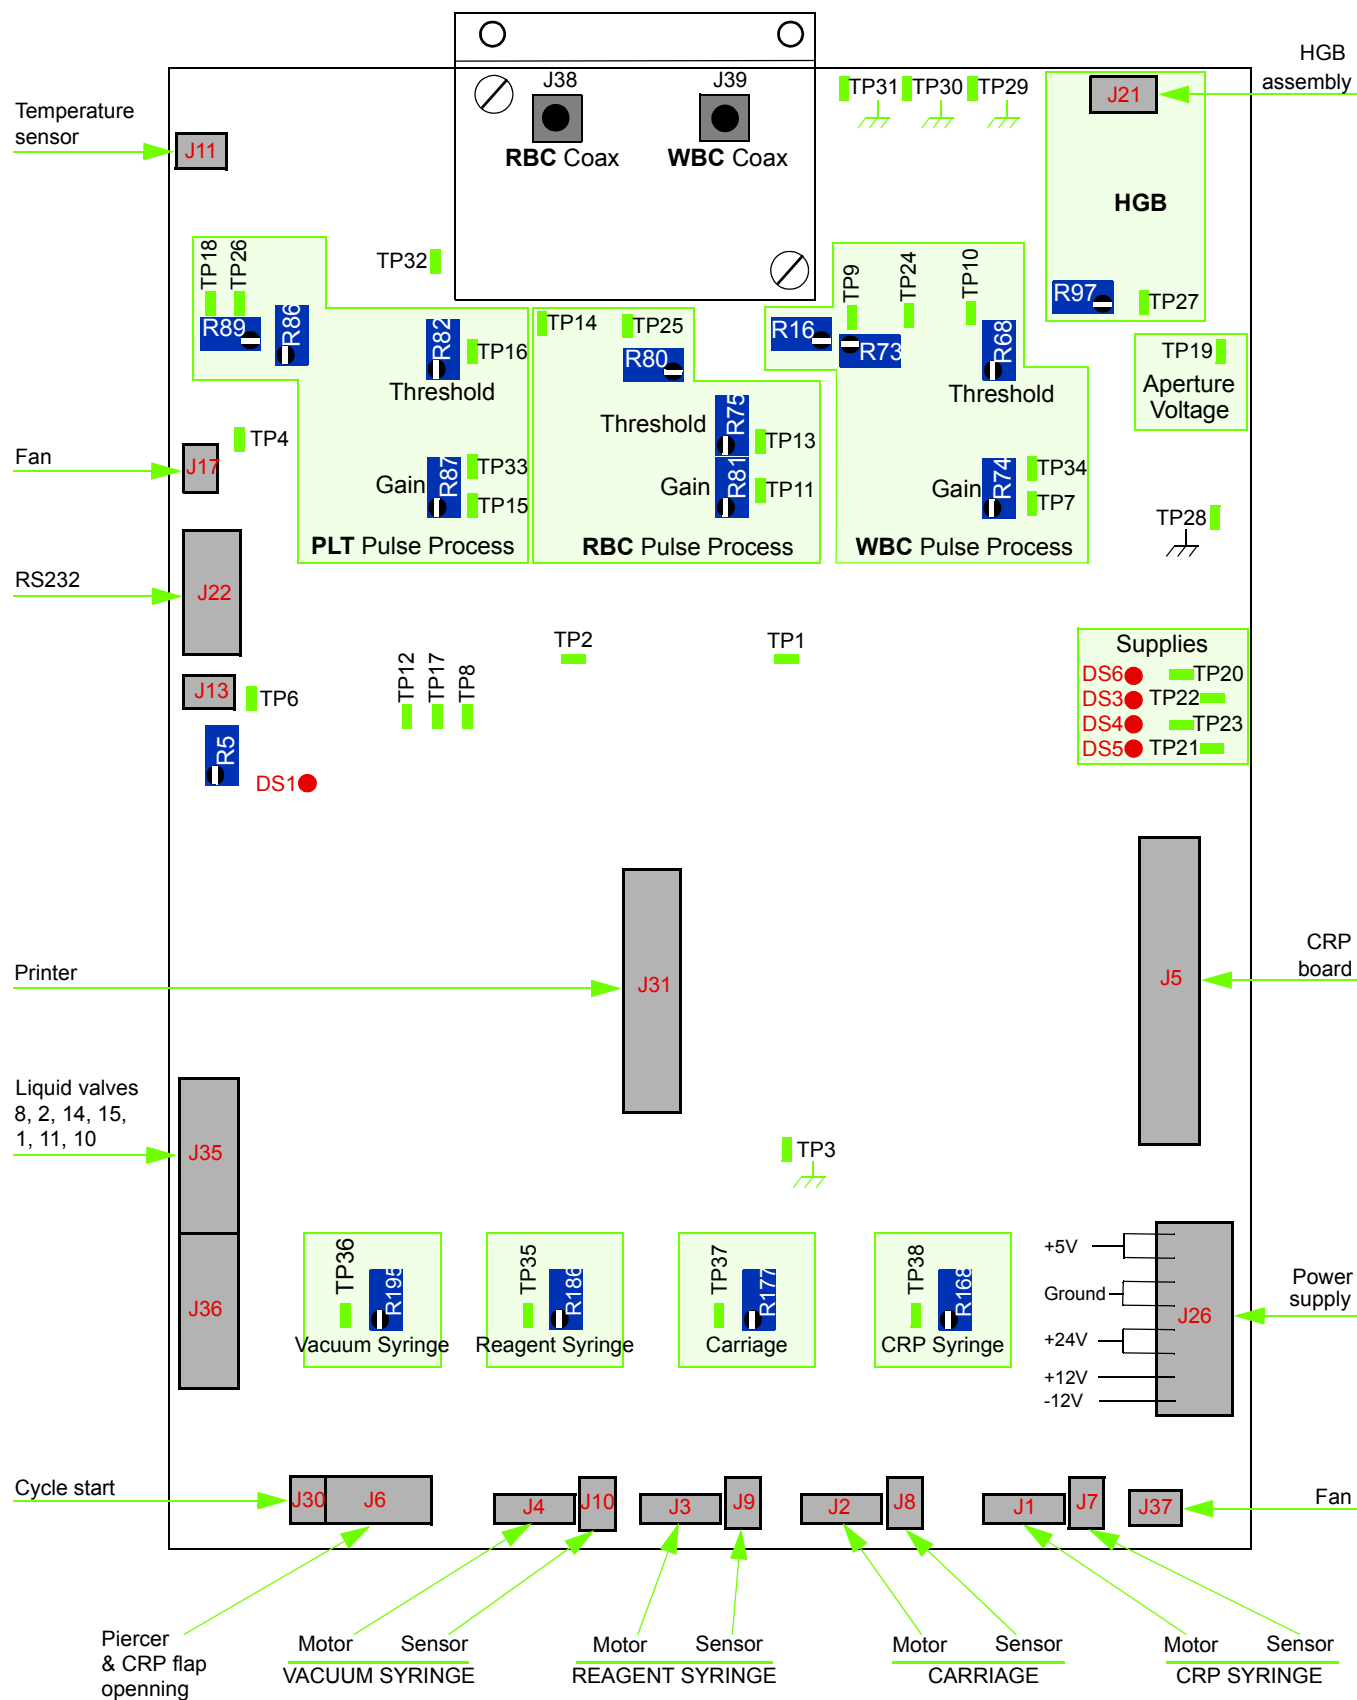

Fig.1: Mother board
- ◆ If necessary adjust WBC threshold by R68 potentiometer on mother board (See "Fig.1: Mother board, page 2").
- ◆ If necessary adjust RBC threshold by R75 potentiometer on mother board (See "Fig.1: Mother board, page 2").
- ◆ If necessary adjust PLT threshold by R82 potentiometer on mother board (See "Fig.1: Mother board, page 2").
- ◆ If necessary adjust Vacuum syringe motor voltage by R195 potentiometer on mother board (See "Fig.1: Mother board, page 2").
- ◆ If necessary adjust Reagent syringe motor voltage by R186 potentiometer on mother board (See "Fig.1: Mother board, page 2").
- ◆ If necessary adjust Carriage motor voltage by R177 potentiometer on mother board (See "Fig.1: Mother board, page 2").
- ◆ If necessary adjust CRP syringe motor voltage by R168 potentiometer on mother board (See "Fig.1: Mother board, page 2").